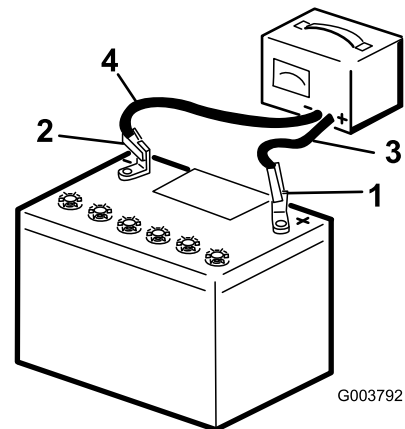

Figure 50
- Charge the battery for 4 to 8 hours at a rate of 3 to 4 A (Figure 50). Do not overcharge the battery.
- When the battery is fully charged, unplug the charger from the electrical outlet, then disconnect the charger leads from the battery posts (Figure 50).